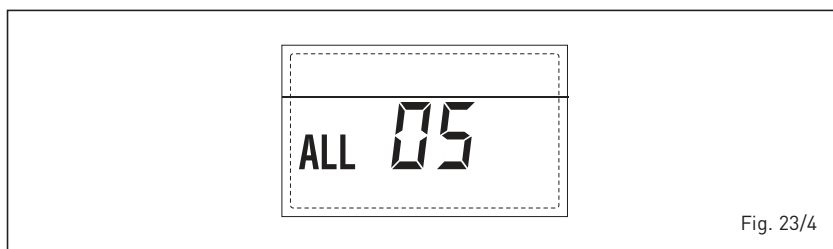

Fig. 23/4
– **BLOCAGE FLAMME "ALL 06" (fig. 23/5)**